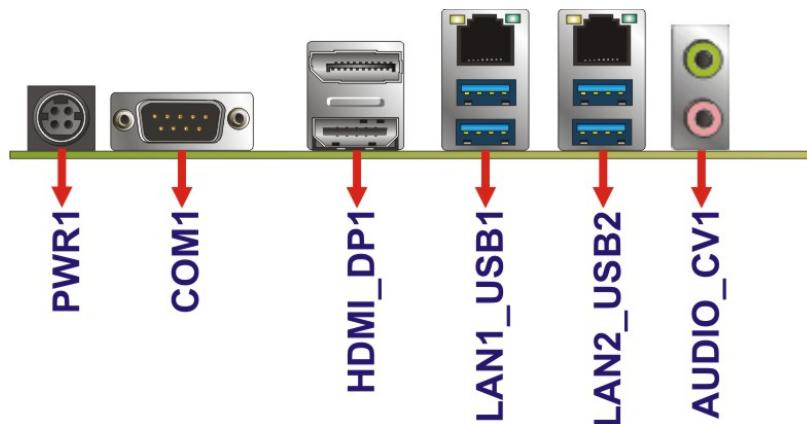

Figure 3-28: External Peripheral Interface Connector
CN Location: See Figure 3-28
CN Location: See **Figure 3-28**
**Figure 3-30: LAN Connector****3.3.1 RS-232/422/485 Serial Port Connectors****CN Label:** COM1**CN Type:** 10-pin header, p=2.00 mm**CN Location:** See **Figure 3-28****CN Pinouts:** See **Table 3-27**